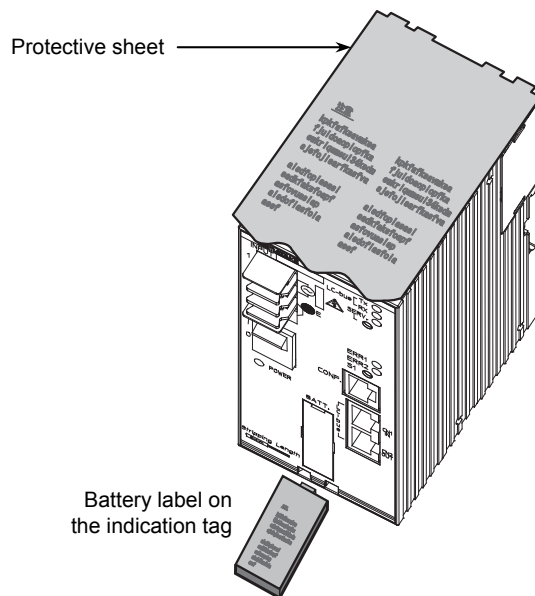

Figure 7. Battery label and protective sheet
- Peel off the protective sheet on the top surface of the product before turning on the power. (See Fig. 7.)